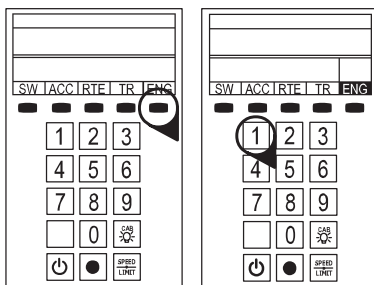

Figure 1. LEGACY engine selection
4. As illustrated in Figure 1, press ENG and 1 (or your programmed ENG ID#) to address the locomotive with your LEGACY CAB-2 Remote Controller.